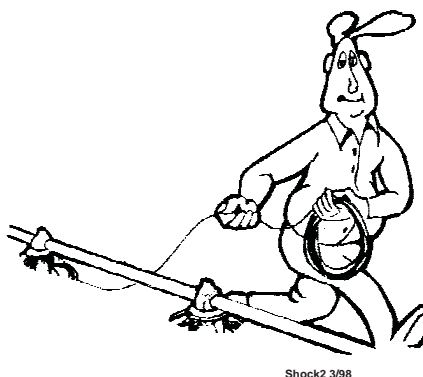

Figure 39. Unrolling the Cable
1. Unroll the bulk anti-roost cable. Note: If the cable is unrolled as shown in **Figure 39**, taking 5 loops of the coil with one hand, then changing hands to remove 5 loops as it is unrolled, it will lie flat during installation.